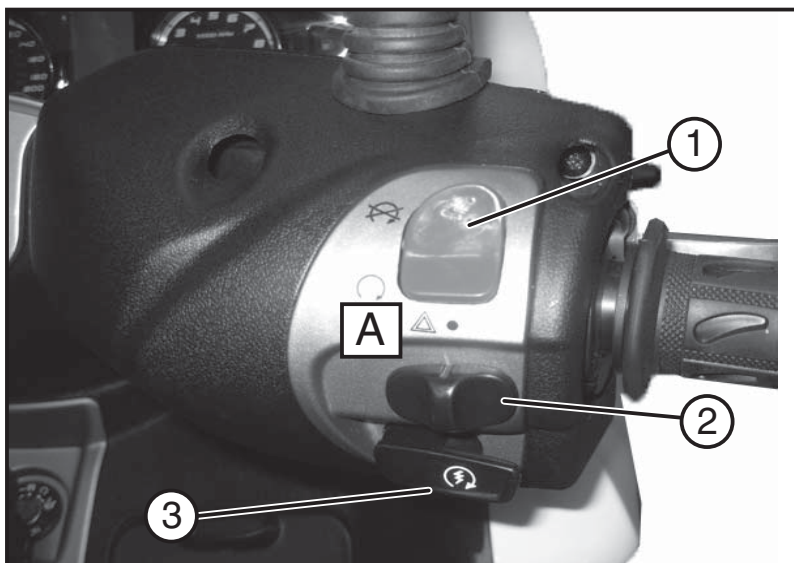

Fig. 01
4.10 COMMANDES AU GUIDON COTE DROIT (Fig. 01)